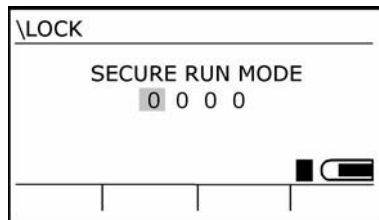

Figure 7–2: Locked Run display
- Not currently running a study** ~ The word **ENABLED** appears below **SECURE RUN MODE** in the Security Control display. You can do anything else you want with *NoisePro* until you press  to start a study. Once you start a study, the Locked Run display appears (Figure 7–2).
- Currently running a study** ~ You had started a study before enabling **Secure Run Mode**. As soon as you enable it, the Locked Run display appears (Figure 7–2). From then on, every other function is locked out. The only thing you can do is provide the security code to take *NoisePro* out of Secure Run Mode.